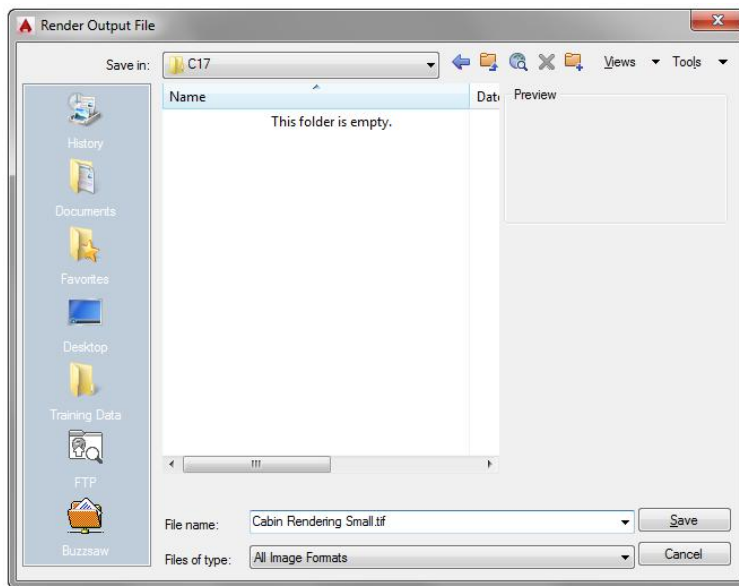

FIGURE 17.33 Saving the final cabin rendering
- b. Name the file **Cabin Rendering Small.tif** (see Figure 17.33).